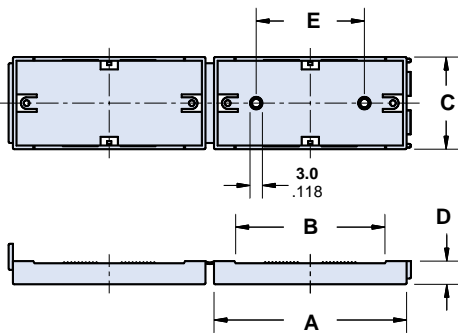

Figure 1
- Figure 1 cases are polypropylene with a flammability rating of UL94-V0.